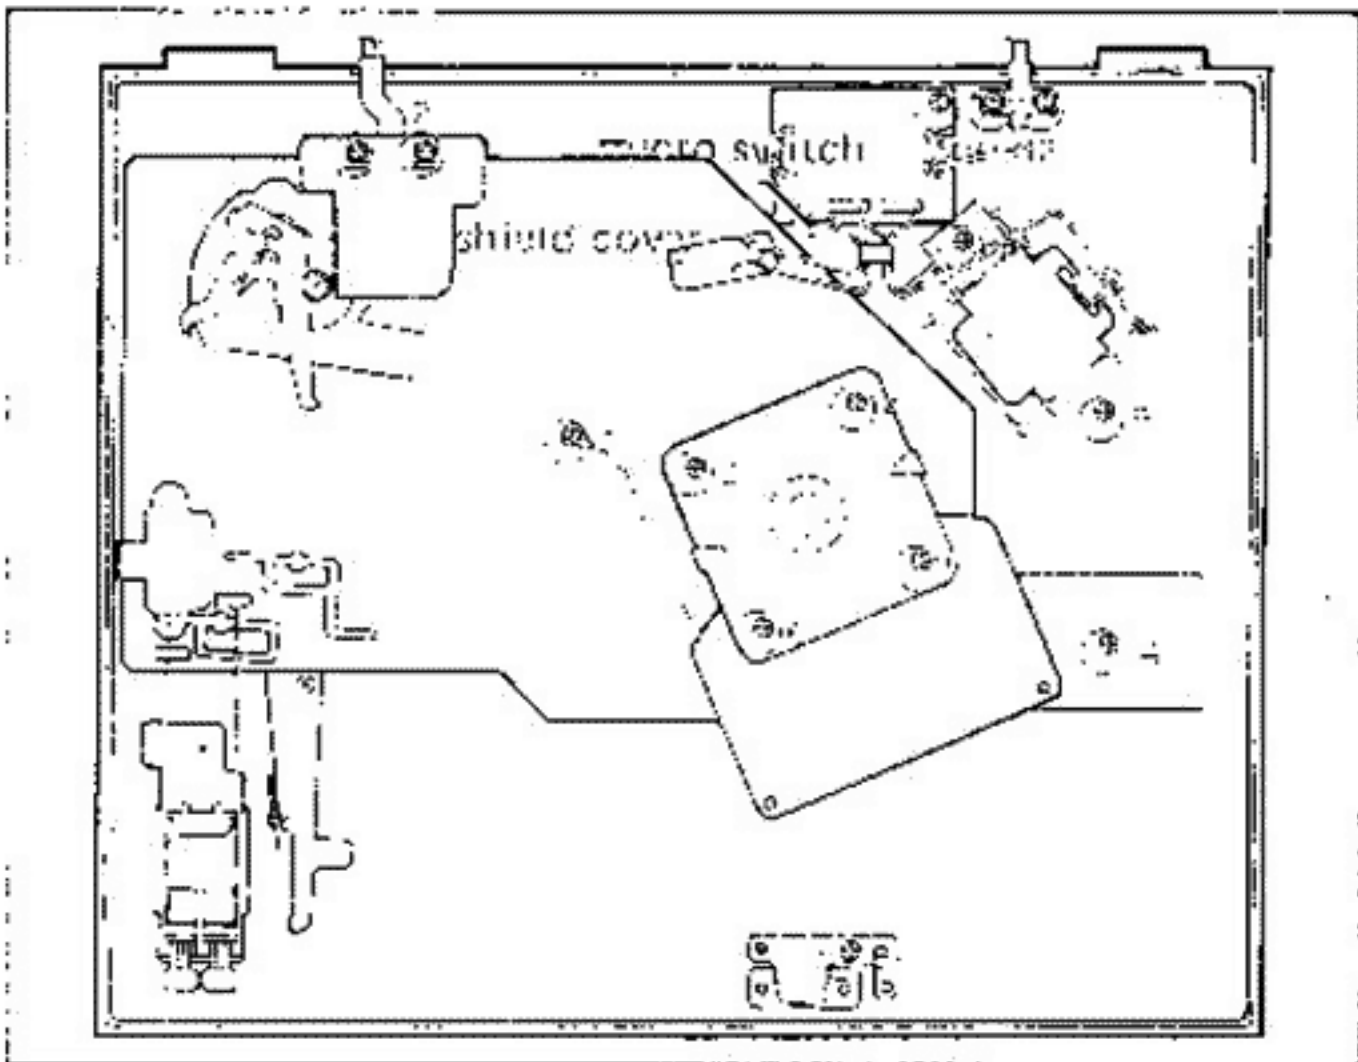

Fig. 2
a. Remove the shield cover by unscrewing ① and ② in Fig. 2.
①: Bind Head B-Tyte Screw 3 x 8Y
②: Bind Head B-Tyte Screw with Washer 3 x 8Y
b. Remove screws ③ ~ ⑦ in Fig. 2 and then remove the motor.
③ ~ ⑦: Bind Head P-Tyte Screw 3 x 10Y
Remove screw ⑧ in Fig. 2 and remove the LED socket Ass'y.
⑧: Bind Head P-Tyte Screw 3 x 6Y
b. Replace the power transformer by unscrewing ⑨ and ⑩ in Fig. 2.
⑨, ⑩: Bind Head P-Tyte Screw 3 x 12Y
- a. Remove the cord stopper by unscrewing ⑪ and ⑫ in Fig. 2.
⑪、⑫ : Bind Head P-Tyte Screw 3 x 12Y
- b. Remove the first circuit board by unscrewing ⑬ in Fig. 2.
⑬ : Bind Head P-Tyte Screw 3 x 10Y
- b. Remove the second circuit board by unscrewing ⑭ in Fig. 2.
⑭ : Bind Head P-Tyte Screw 3 x 10Y
- b. Unscrew ① ~ ⑩ and remove the selector button Ass'y, base Ass'y and repeat Ass'y at the same time
① ~ ⑥ : Bind Head P-Tyte 3 x 10Y
⑦ : Bind Head P-Tyte 3 x 12Y
⑧ ~ ⑩ : Bind Head P-Tyte 3 x 16Y